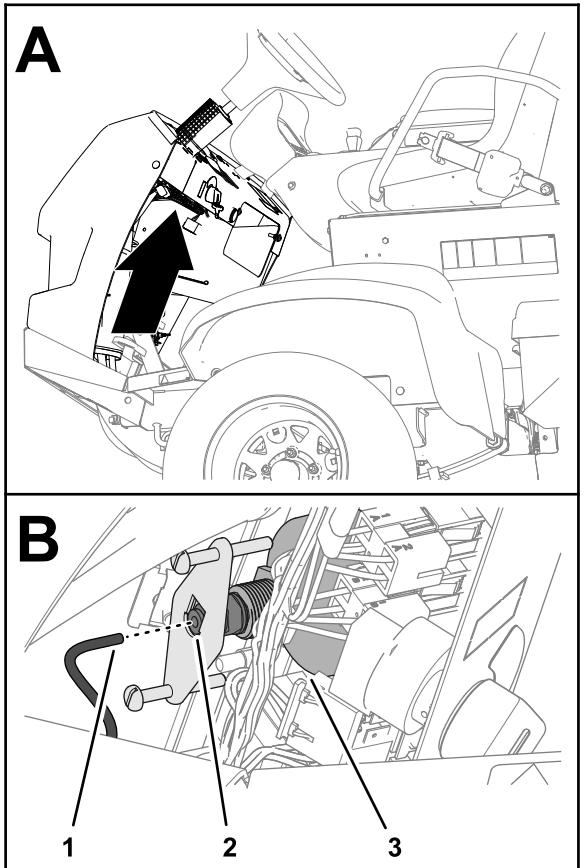

Figure 127
5. Remove the tube from the back of the pressure gauge and place the end of the tube into a container (Figure 127).